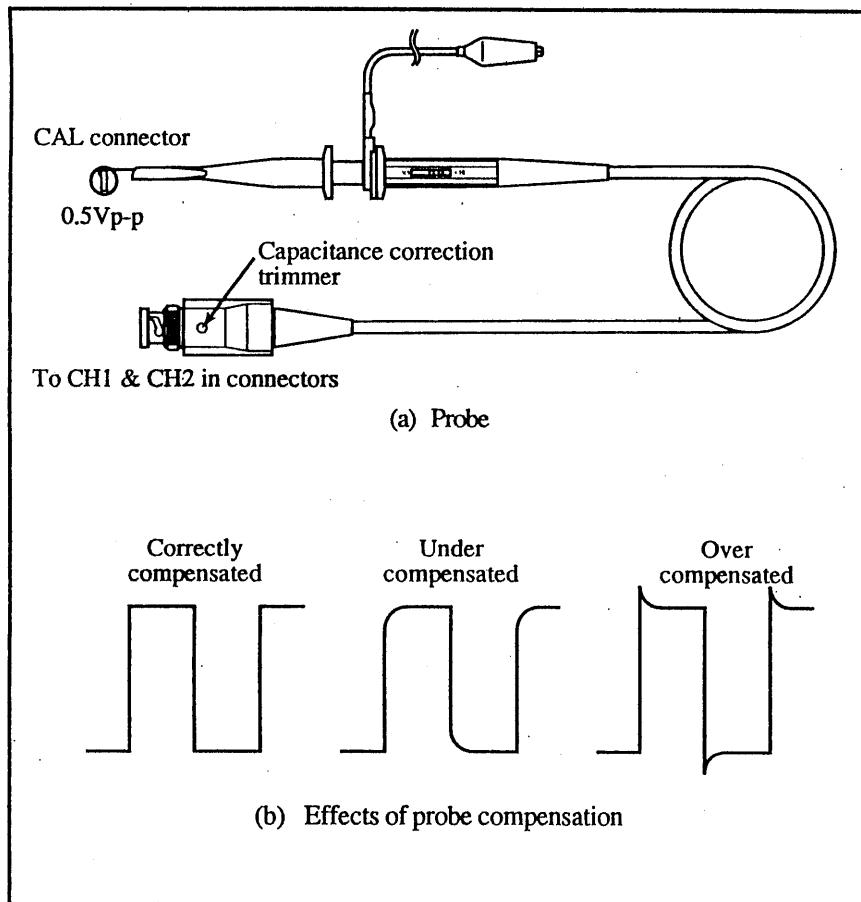

Figure 3-3 Probe Compensation
- Step 9** If the top and bottom of the displayed square wave are tilted or peaked, the probes must be compensated (matched to the scope input capacitance). Adjust the capacitance correction trimmer of the probe with a small screwdriver. See Figure 3-3.